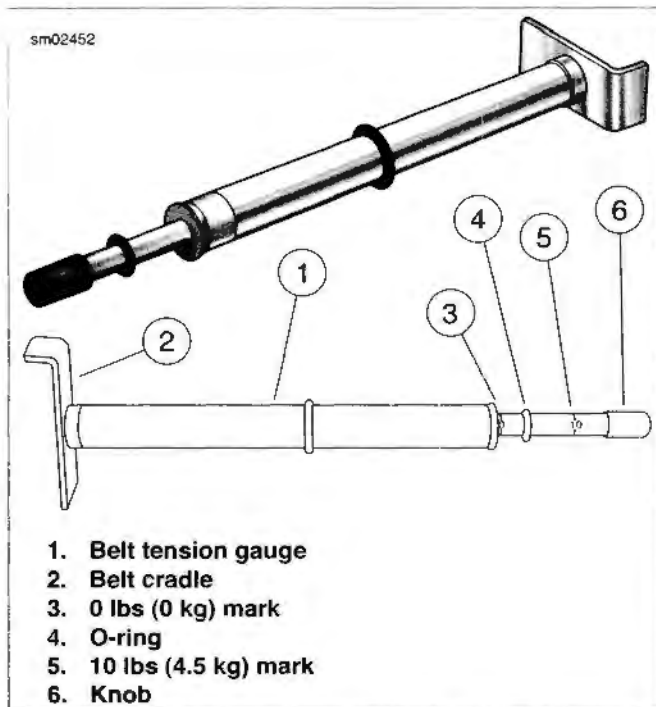
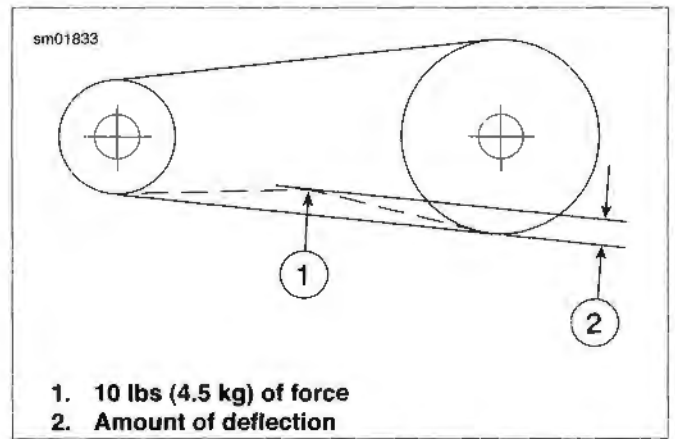
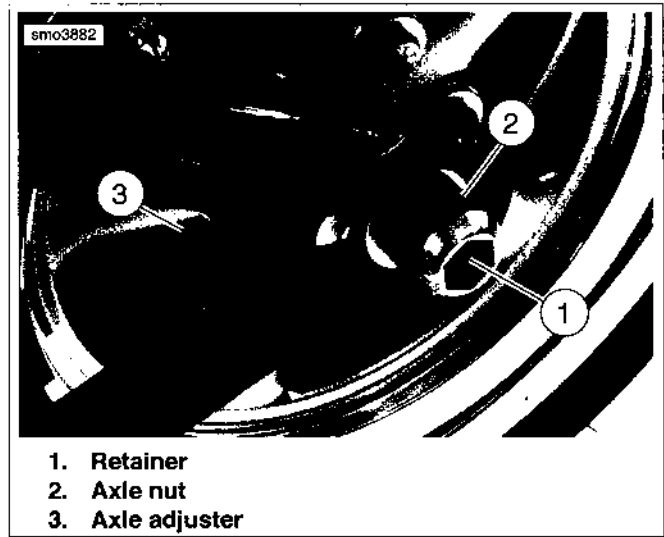

Figure 1-24. Belt Tension Gauge (Part No. HD-35381-B)
Figure 1-25. Checking Belt Deflection
Figure 1-27. Axle Adjusters: FXCWC
1. See Figure 1-24. Obtain BELT TENSION GAUGE (Part No. HD-35381-A).
- a. Slide o-ring (4) toward 0 lbs (0 kg) mark (3).
- b. Fit belt cradle (2) against bottom of drive belt half-way between drive pulleys (point 1 in Figure 1-27.)
- c. Press upward on knob (6) until o-ring slides down to 10 lbs (4.5 kg) mark (5).
3. See Figure 1-25. Check Drive belt deflection. Apply 10 lbs (4.5 kg) of force upward at point 1.
2. **FXCWC:** See Figure 1-27. Loosen rear axle nut (2).
3. Adjust belt tension by turning the axle adjusters (3) an equal number of turns to keep the wheel aligned until the specification in Table 1-11 is achieved.
4. Tighten axle nut (2) to 95-105 ft-lbs (128.8-142.4 Nm).